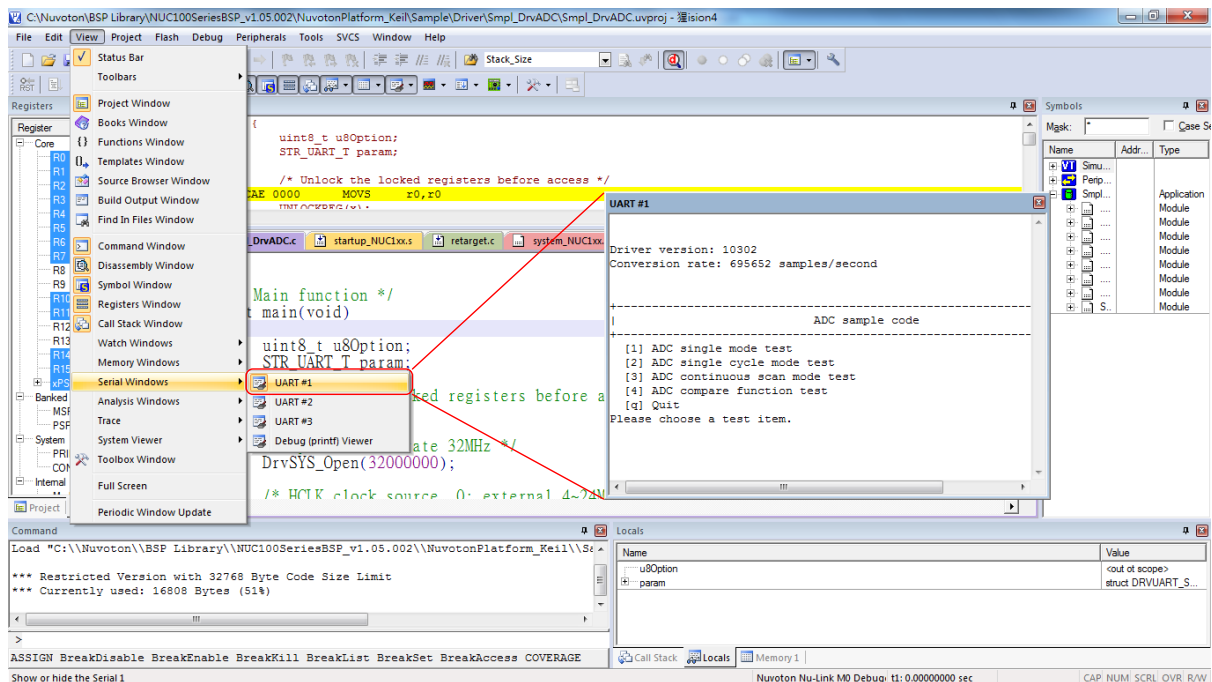

Figure 3-4 Semihost Options in Keil MDK Debug Mode
When using the Semihost function, the message of the NuMicro® Family microcontroller can be output through UART to the debug window by the Nu-Link Adapter. That is, the message is output without the GPIO. Figure 3-4 shows the debug messages in the “UART #1” form, which are the messages output by the Nu-Link Adapter.
Step 4: In Debug mode, invoke **View** → **Serial Windows** → **UART #1**, as shown in Figure 3-4.